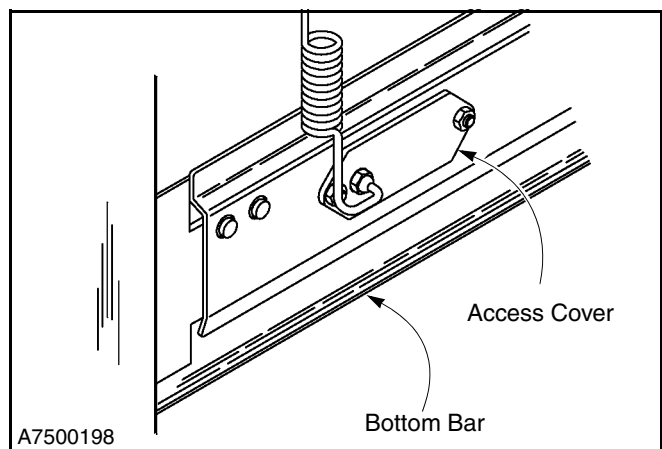

Figure 29
2. Remove the kill switch assembly access cover from the bottom bar. The kill switch is located on the same side as the door motor. (See Figure 29.)